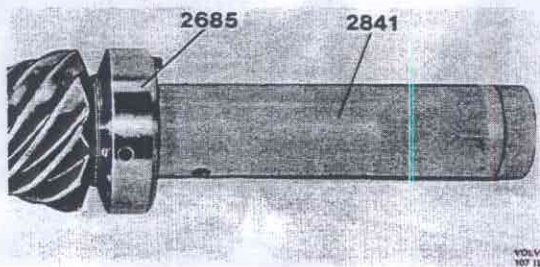

Fig. 46-56. Adjuster ring and sleeve for pinion location
2. Place the adjuster ring 2685 with lock screw facing the pinion. Tighten up spanner 2841, Fig. 46-56.